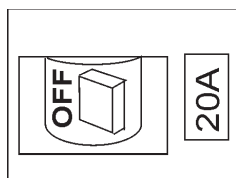

Figure 16. Main Circuit Breaker (ON)
2. Place the main circuit breaker (Figure 16) in the **ON** position.